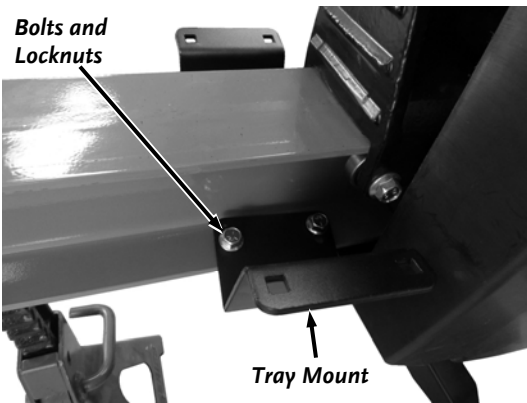

Figure 12
2. Loosely install a Tray Mount on both sides of the Beam with 3/8-16 x 1.25" Flange Bolts and Locknuts using two 9/16" Wrenches (Figure 12).